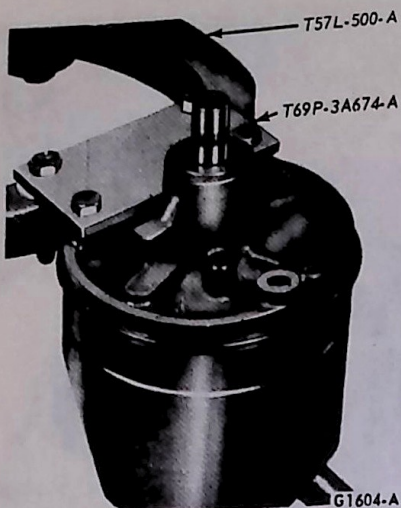

FIG. 12 Adapter Plate Installation
1. Assemble the adapter plate (Tool T69P-3A674-A) to the bench mounted holding fixture Tool T57L-500-A (Fig. 12).